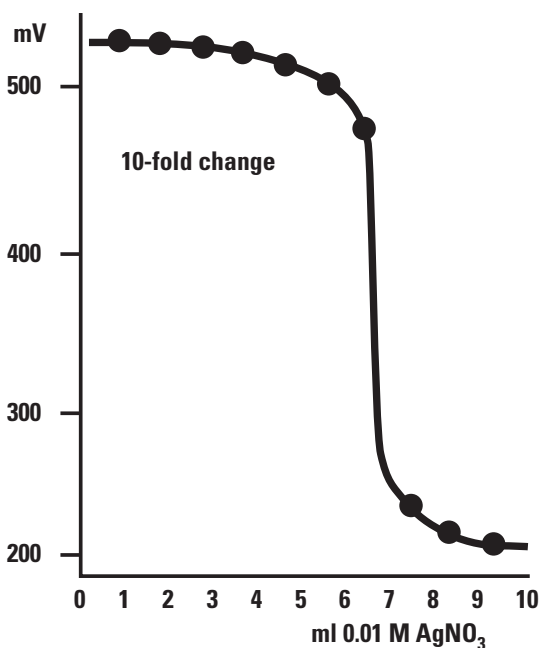

Figure 3– Typical Titration of 25 mL of 0.001 M Chloride Sample (Before Dilution) with 0.01 M AgNO₃
2. Use a 10 mL burette to add increments of titrant to the beaker. Plot the electrode potential against mL of titrant added. The endpoint is the point of the greatest slope (inflection point). See **Figure 3**.